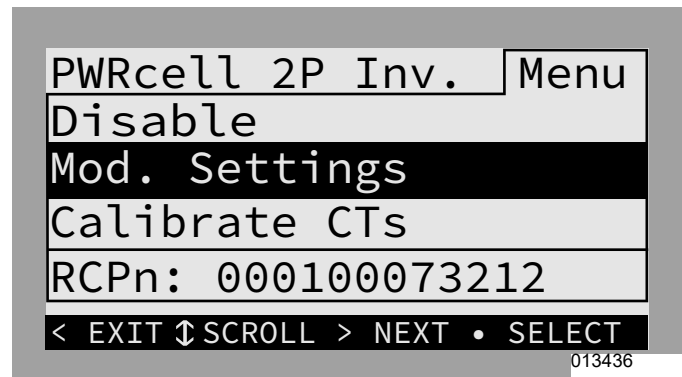
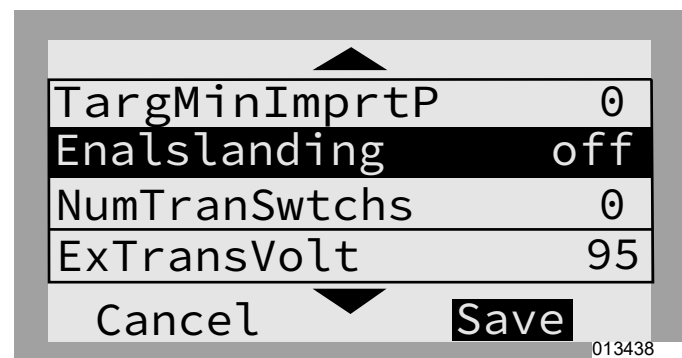

Figure 7-15. PV Only System (1 of 2)
Figure 7-16. PV Only System (2 of 2)
- See Figure 7-15 and Figure 7-16. Inverter “Mod. Settings.”